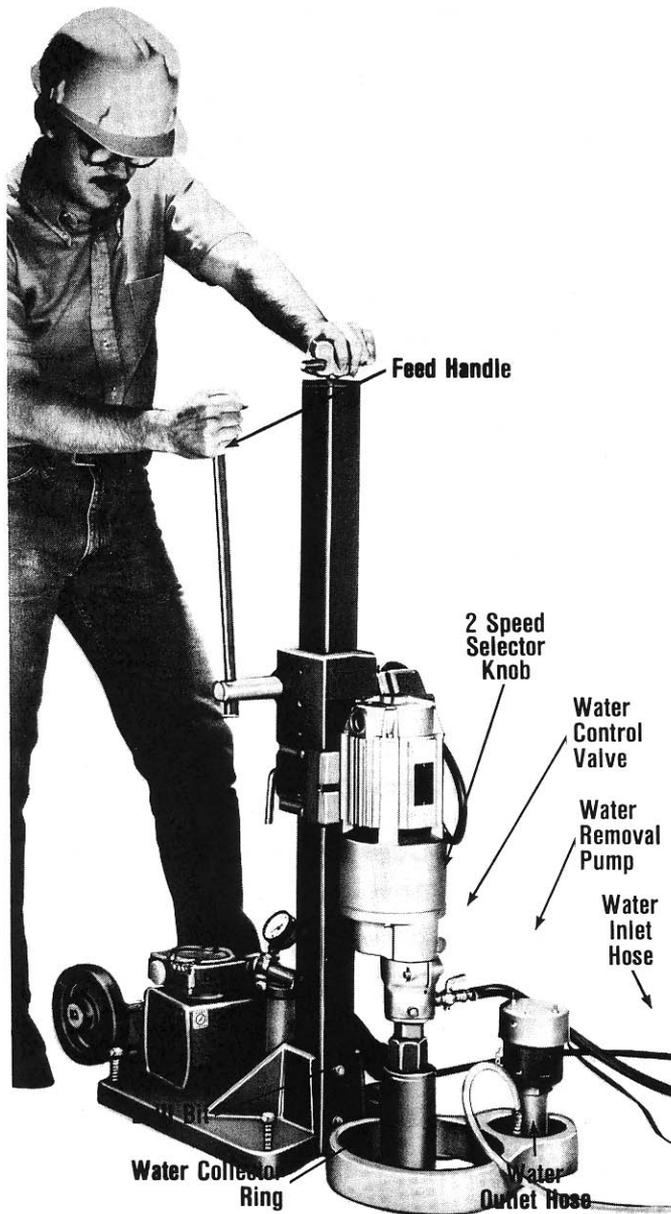

Figure 5. Operating Core Drilling Machine Using Water Collector Ring and Pump.
6. Open Water Control Valve (Fig. 5) allowing water to flow at 1-2 gallons per minutes.